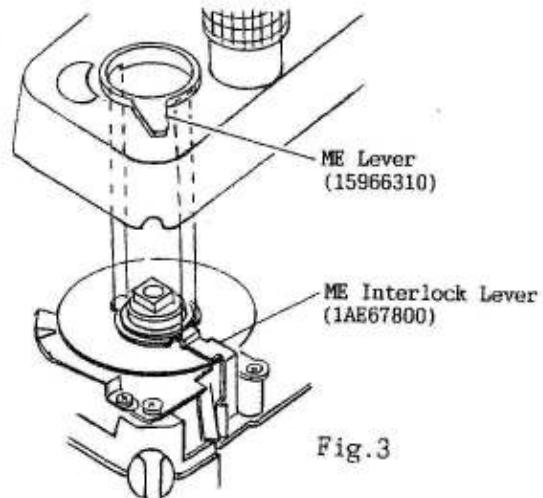

Fig. 3
- Position the pins of the ISO Contact Base Ass'y (1AEAA390) as shown in Fig. 3 (at ISO 100). When installing the Top Cover Ass'y, position the "100" of the ISO Dial at the ISO Index on the Top Cover.